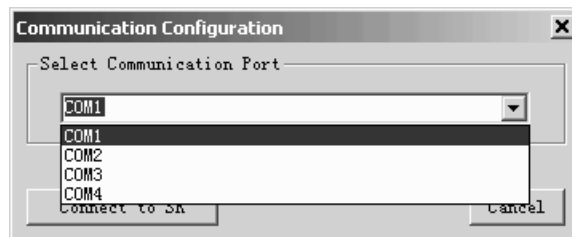

Fig 4.18 Set Up Port and Baud Rate
b. Open application software Super CAD, set up a new document, then open computer com, click option “Configuration” under menu “Com” with left button of the mouse, or click “” in toolbar, dialog box shown as fig 4.18 appears, then select your communication port and speed.
- b. Open the port of computer, click option “Configuration” under menu “Com”, or click “” in toolbar, dialog box shown as fig4.18 appears, select your communication port and speed.